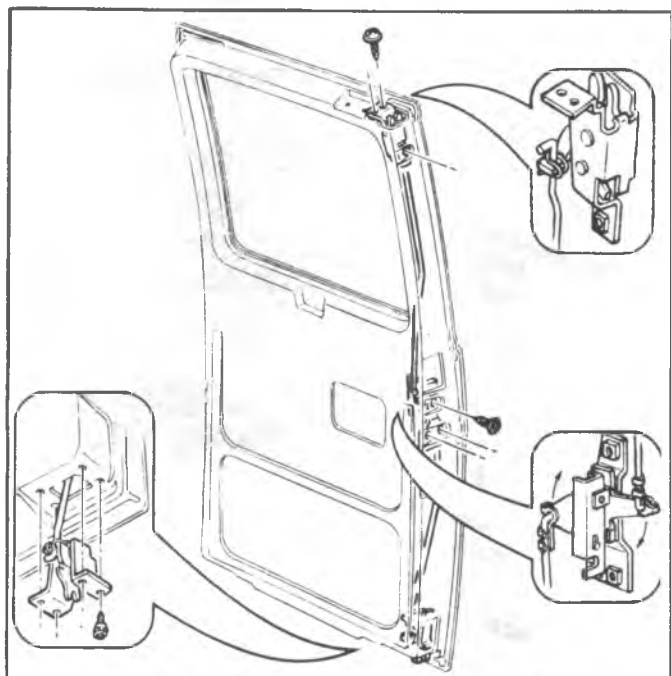

Fig. 2D-131--Remote Control and Latch
2. Disengage rod from remote control assembly. See figure 2D-131.